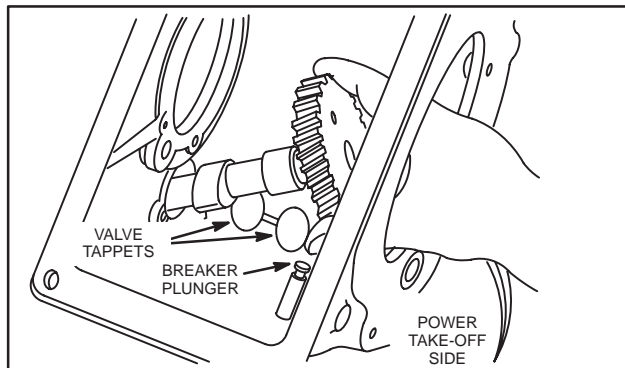

Fig. 884 – INSERTING CAM GEAR
2. Insert cam gear from power take-off side of cylinder, Fig. 884.